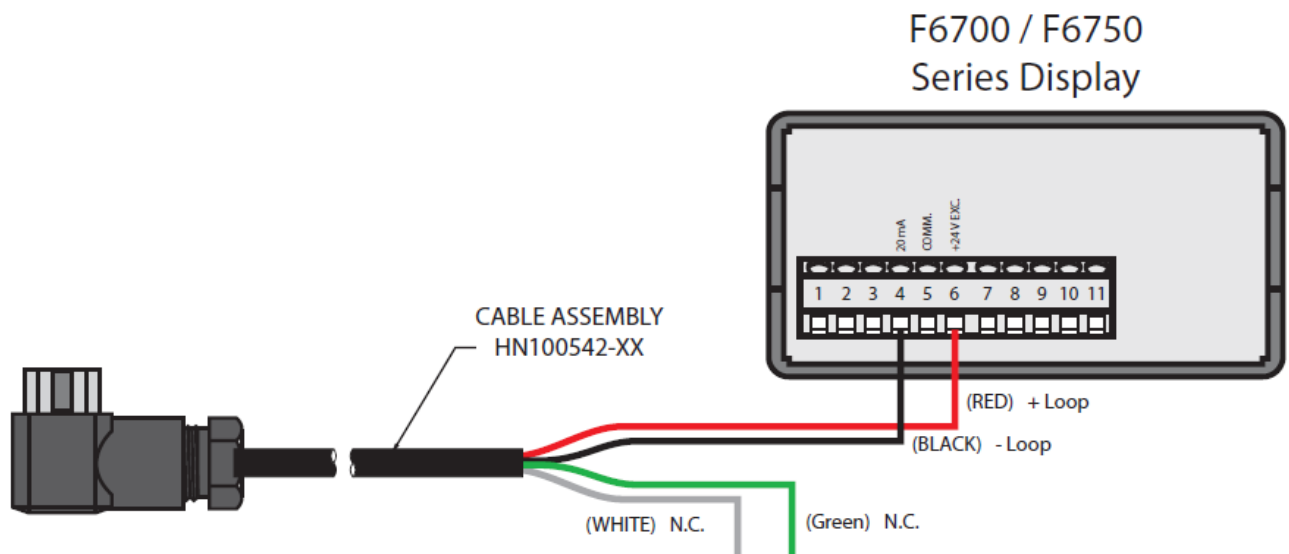

Figure 6: Hedland flow transmitter wiring
1. Connect the RED wire of the HN100542 cable to terminal 6 (+24 V EXC) on the F6700 series display. See Figure 6.